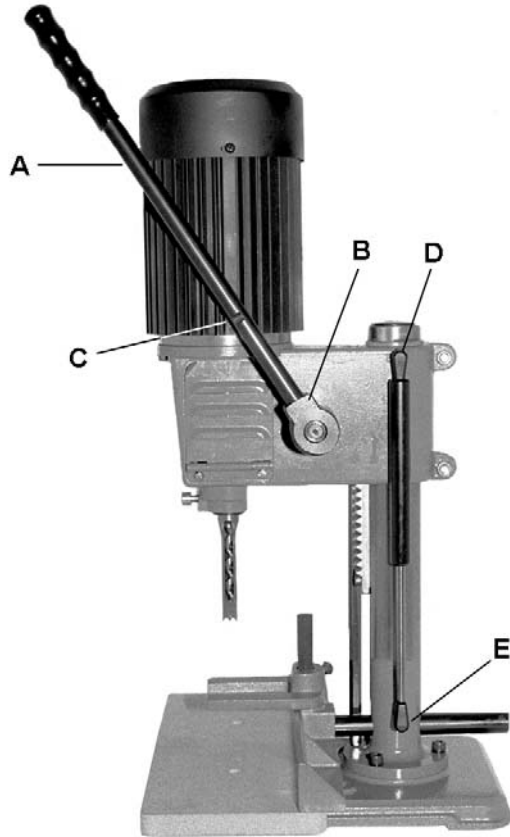

Figure 2
1. Screw the handle (A, Figure 2) into the pinion shaft (B, Figure 2).
2. Tighten the handle. The handle has a notch (C, Figure 2) to accommodate a wrench.
4. With the head in the up position press the hydraulic cylinder onto the two fittings. The upper fitting (D, Figure 2) is located on the head. The lower fitting (E, Figure 2) is on the column.